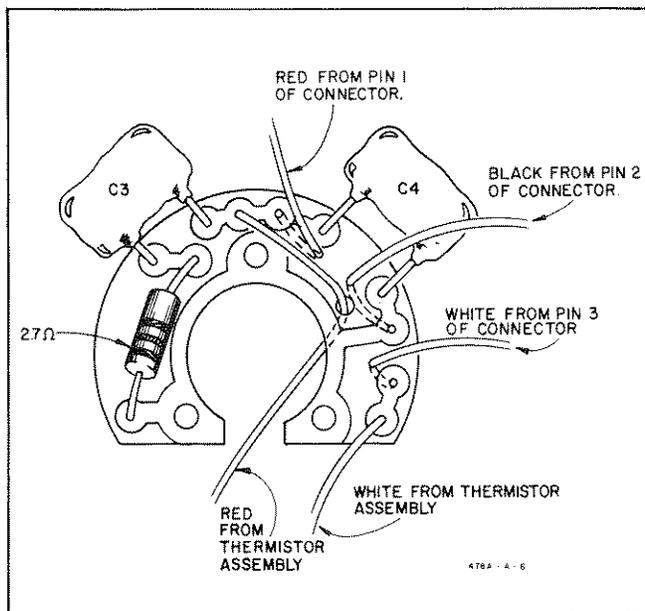

Figure 10. HP Model 478A Printed Circuit Assy Wiring
a. Referring to Figure 10, connect the three wires from receptacle connector to printed circuit assembly.
c. Pass the red wire from the thermistor assembly through the hole indicated in Figure 10. Do not connect to printed circuit assembly at this time.